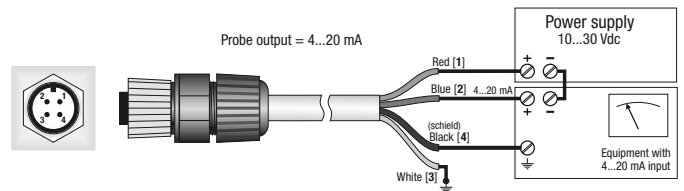

Fig. 7
- LP PYRHE 16 AC should be connected to a power supply device and to a multi-meter according to the scheme below (figure 7); the load resistance for signal readout should be ≤ 500 Ω: